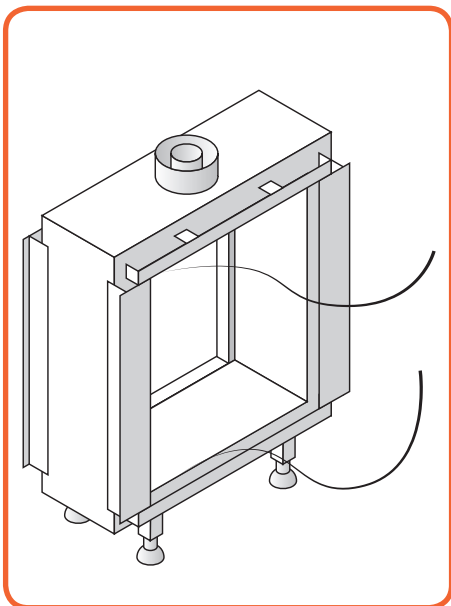

Figure 10.7 - Remove glass cords
- Remove the glass cords. (See *Figure 10.7*)